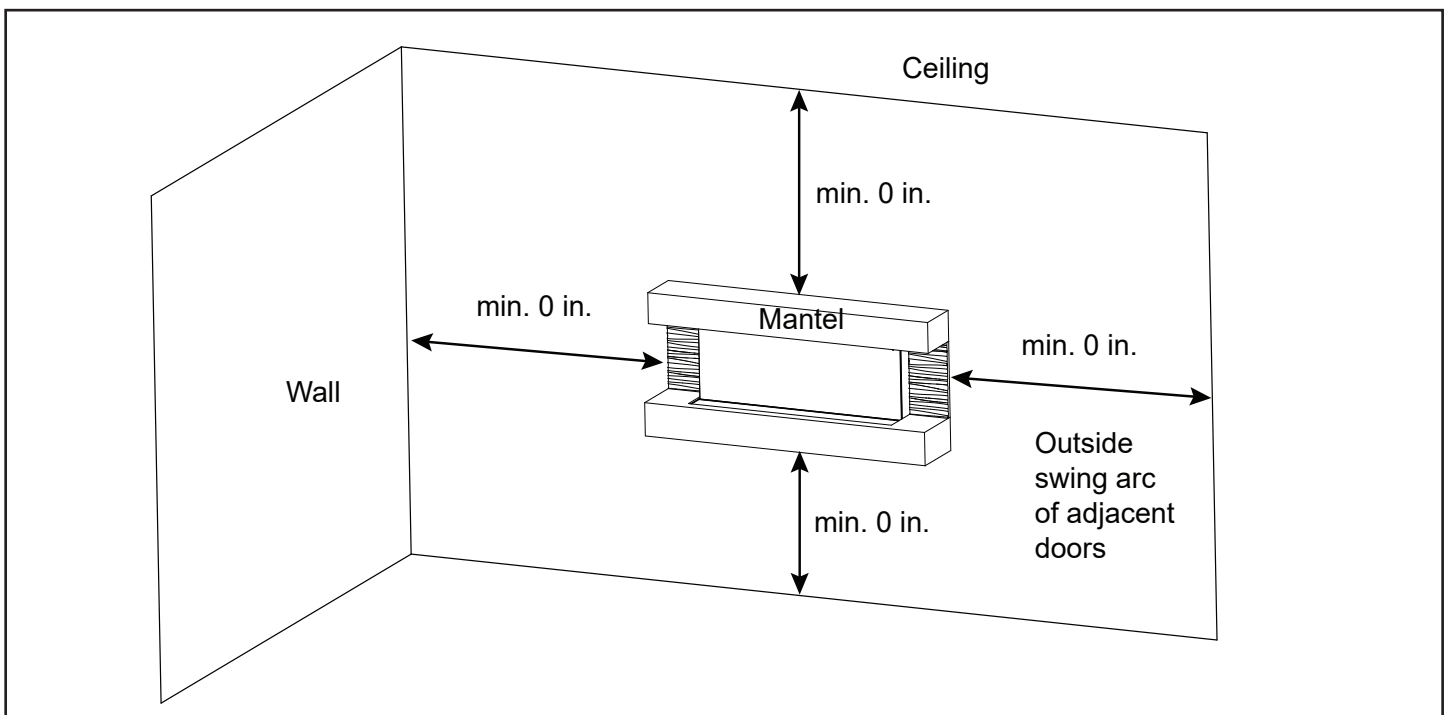

Figure 3.3 Location and Clearances Requirements
- See Figure 3.3 and 4.1 to determine location of appliance installation.
See Figure 3.3.